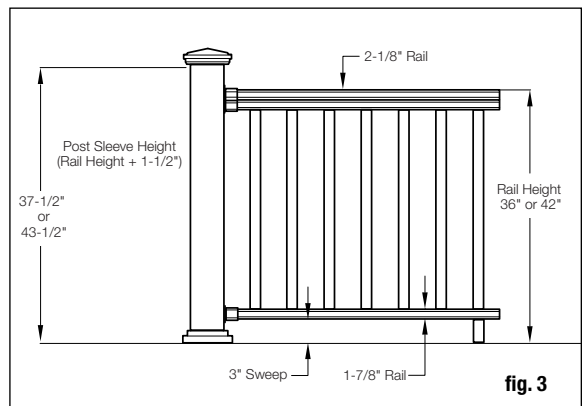

fig. 3
Note: These instructions are for a 36" rail. If you want to have your railing at a different height, use figure 3 as a planning tool to determine the height to cut post sleeves and balusters.
Step 5: Trim 4x4 post sleeves to length. Post sleeves should be a minimum of 1-1/2" longer than the railing height (fig. 3). Example: For a 36" high railing, trim post sleeve to a minimum of 38-1/2" or longer if a higher railing is desired. Slide a trimmed post sleeve over each 4x4 railing post. Post sleeve should slide easily over the post. DO NOT FORCE post sleeve onto post. Twisted or crooked 4x4s should be replaced. Slide a post base trim (optional) over each post sleeve for a finished look. *Note: It is recommended to install the post base trim prior to installing the bottom rail. However, the two-piece design does allow the installer to add the post base trim after the rail has been installed. To install, apply a thin line of clear exterior construction adhesive to the inside of the post trim-where it will contact the post sleeve, and snap into place around the base.*